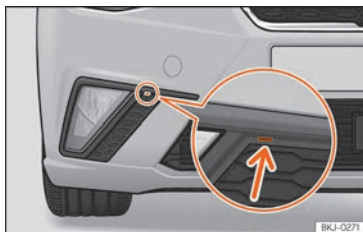

Fig. 58 Front fog light: remove the grille
- Lever the groove with a screwdriver » **Fig. 58** (arrow). Next, remove the clips located on the edge of the grill, levering them gently.